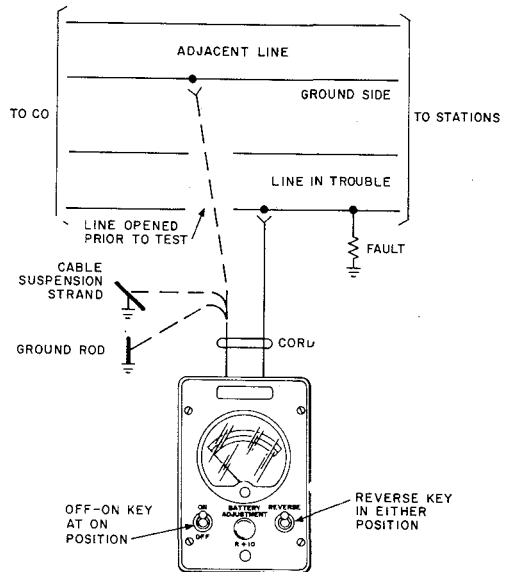

Fig. 5—Test for Grounds
- (1) Open the line at a convenient location such as at a cable terminal or bridging point.
- (2) Connect one clip to ground. A suitable ground connection may be secured from the suspension strand or other associated grounded plant, from the grounded side of an adjacent line, or from a temporarily driven ground rod (Fig. 5).
- (3) Connect the other clip to the wire to be measured.
- (4) Throw ON-OFF key to ON.
- (5) Read meter deflection. If read on the ohm or megohm scale, the reading indicates the insulation resistance of the measured wire to ground; if read on the "points" scale, the insulation resistance is obtained in terms of points.